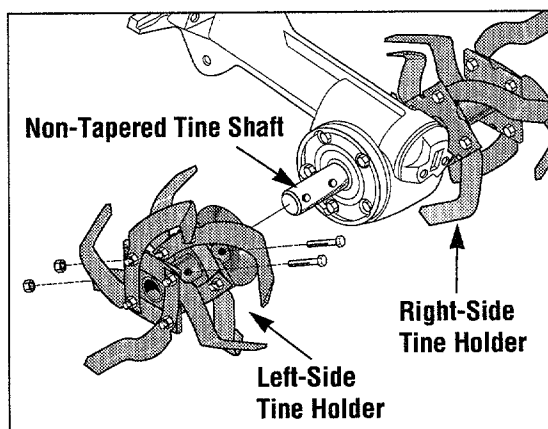

Figure 5-33: Style "A" Tine Holders.
The 16 Bolo Tines are mounted eight per side on left-side and right-side tine holders – on either Style A or Style B holders (refer to Figures 5-33 and 5-34 to see which style tine holder you have). Style A tines holders are secured to the tine shaft with two bolts and two nuts. Style B tines holders are secured with a single end bolt to the left and right sides of the tine shaft. Here's how to replace the tines and holders as assemblies.
3. With Style A holders, remove the two bolts and nuts securing each holder (Figure 5-33). With Style B holders, remove the single bolt (along with the washers) from the end of the tine shaft (Figure 5-34).